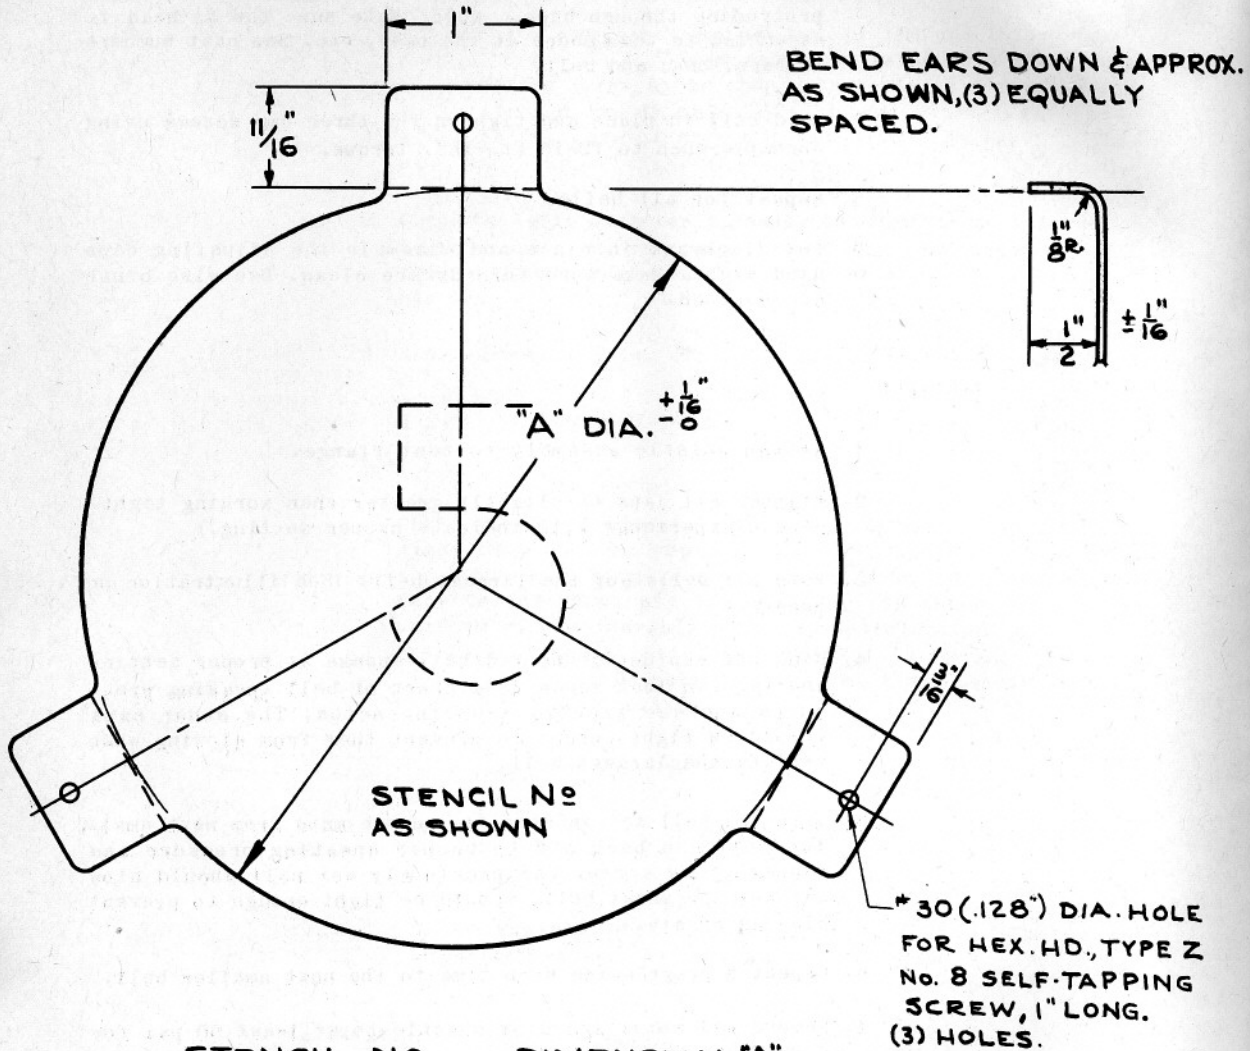

Figure 2
2. Place a piece of waste or rag loosely in all bells but the lowest tone (longest bell) and cover bell with mute. (See Fig. 2 Page 7).